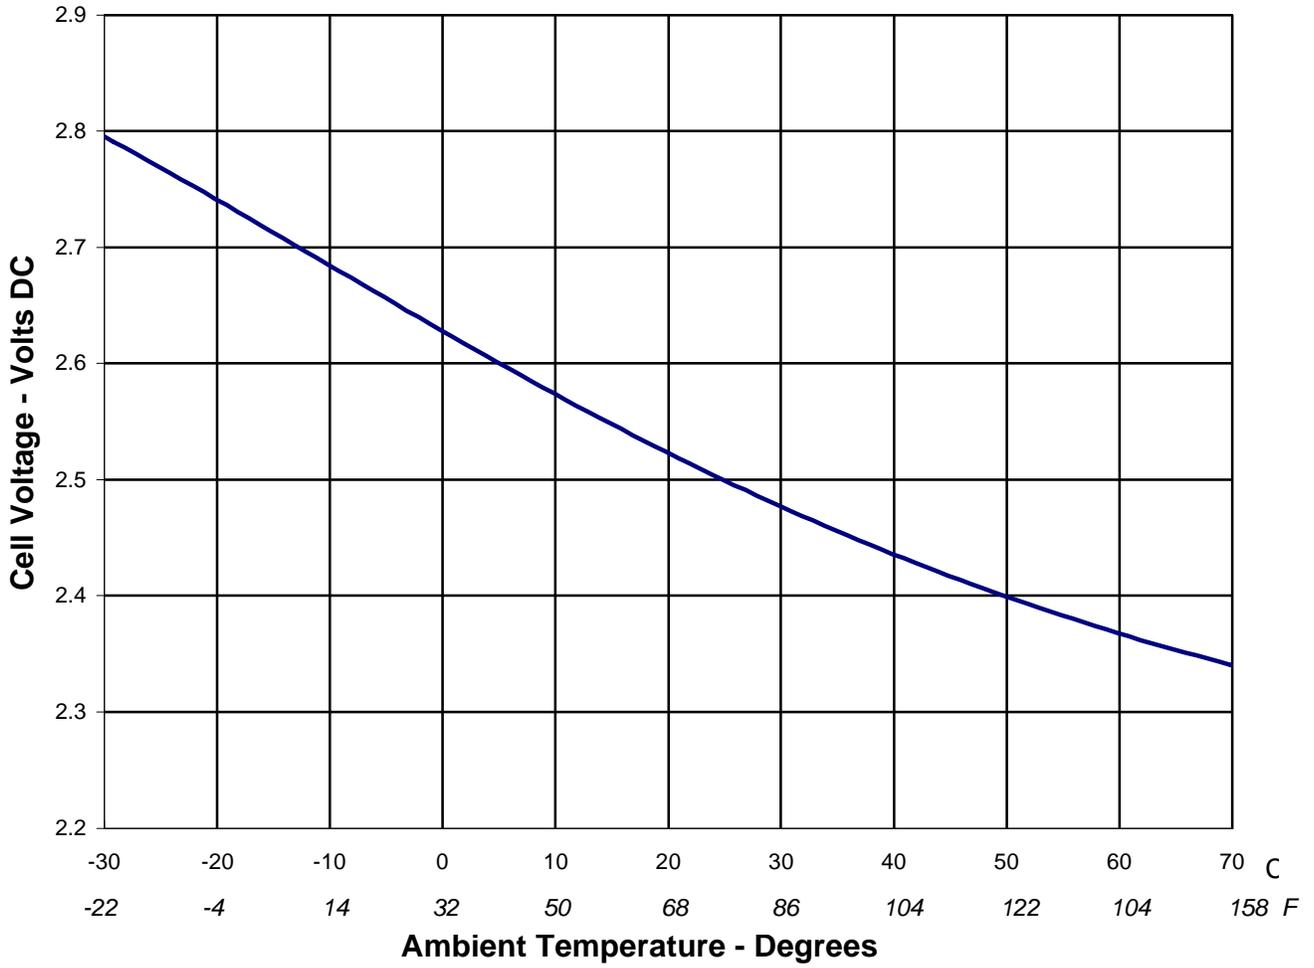

Figure 1-1 BC-20 Temperature Compensation
- Automatic temperature compensation of float voltage to match battery characteristics with varying ambient temperature (see Figure 1-1)